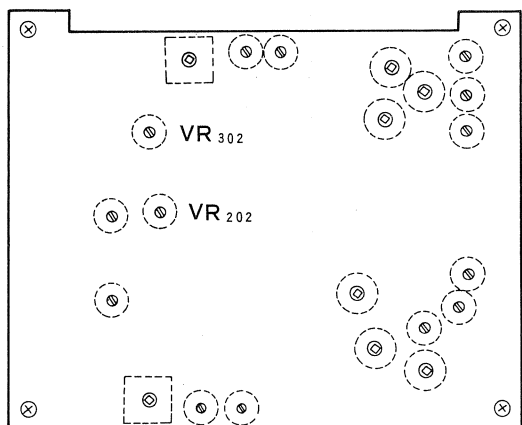

Fig. 19
4. Play the first band (333Hz) of test tape, adjust VR202 (L channel), adjust VR302 (R) to obtain 1.2V (4dB) reading on the voltmeters, refer to Fig. 19.